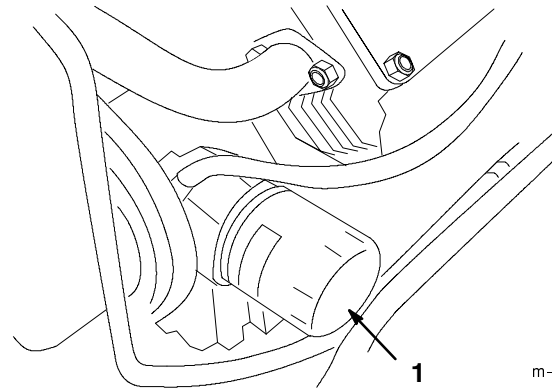

Figure 30
3. Remove the old filter (Fig. 30) and wipe the surface of the filter adapter gasket.